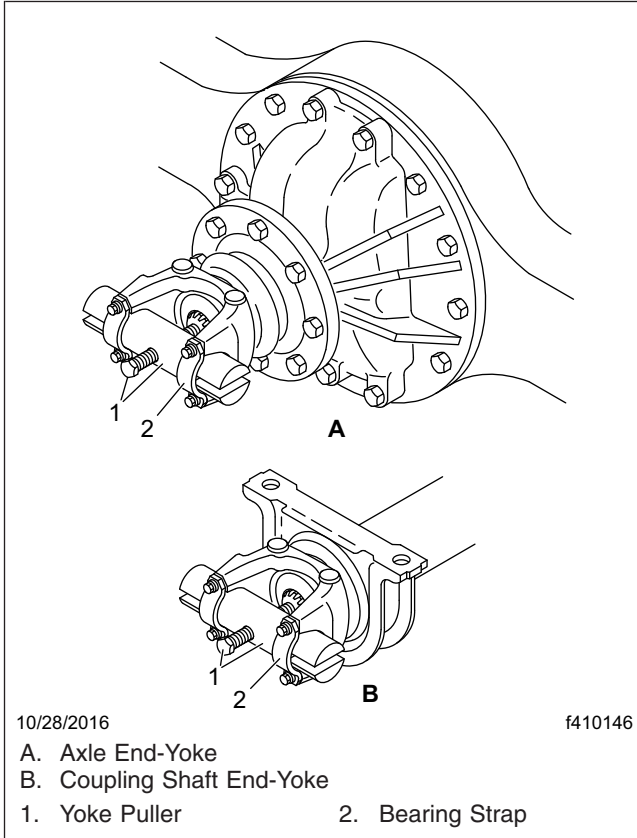
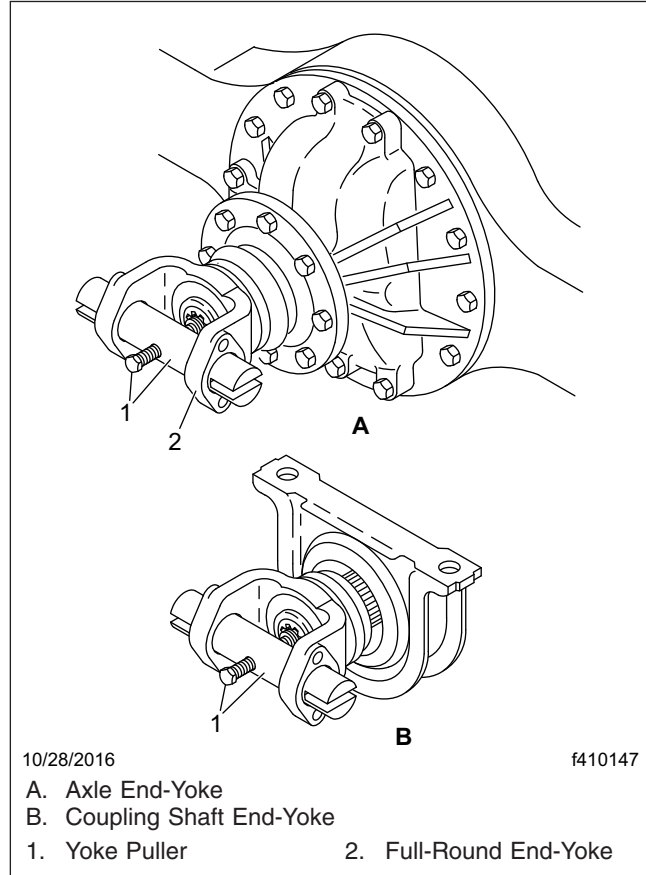
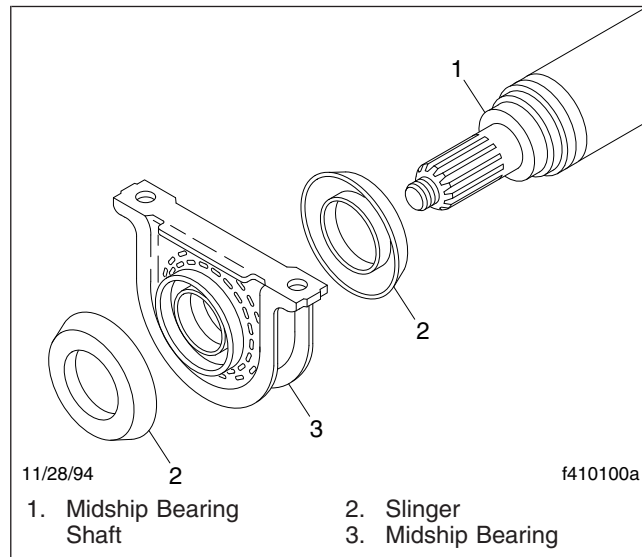

Fig. 1, Remove a Half-Round End-Yoke
Fig. 2, Removing a Full-Round End-Yoke
Fig. 3, Midship Bearing and Slings
4. Remove the end-yoke; see Fig. 1 for a half-round end-yoke, or see Fig. 2 for a full-round end-yoke. Then, remove the midship bearing and slingers, if equipped. See Fig. 3.
- 4.3 Using a yoke puller, remove the end-yoke. See Fig. 1 for a half-round end-yoke, and Fig. 2 for a full-round end-yoke.
- 4.4 Use a hammer and a brass drift to remove the midship bearing and slingers. See Fig. 3.